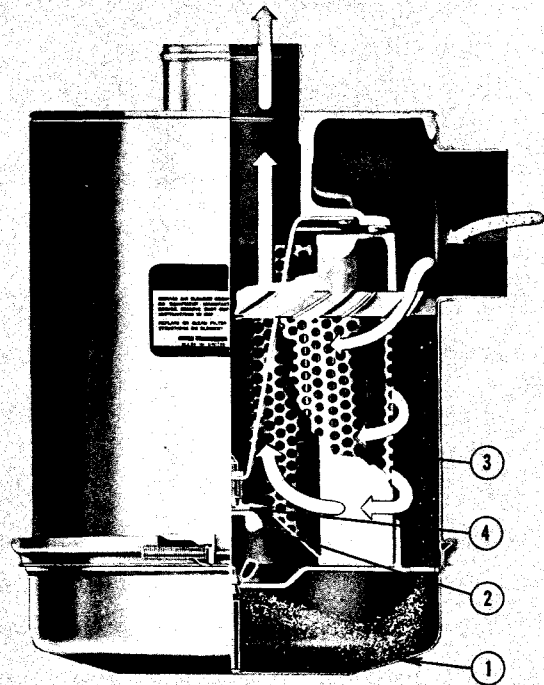
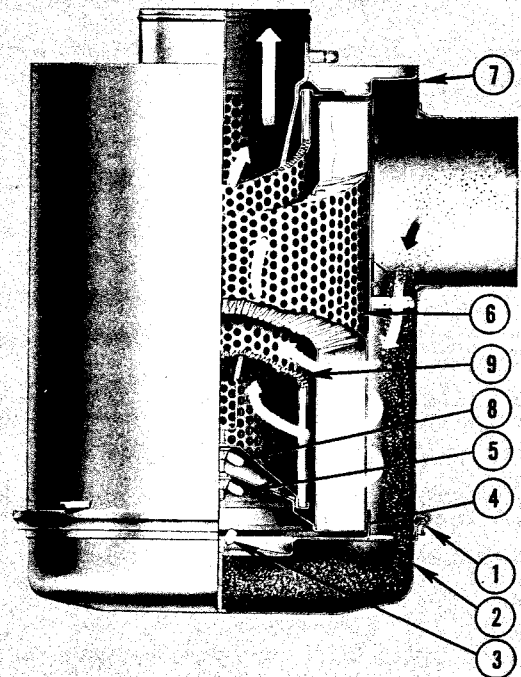

Fig. 2-17, (V11005). Air cleaner - heavy duty
Fig. 2-18, (N11030). Air cleaner - heavy duty dual element
Dirty air enters through an opening in the side of the single or dual type, cyclopac cleaner body. On single element type air immediately travels through a ring of vanes around the outside and through a primary element and on into the engine. Fig. 2-17. Whereas, on a dual element type air travels through a ring of vanes around the outside and through a primary element (6), Fig. 2-18) and then through a safety element (9) and on into the engine.
1. Loosen wing bolt, remove band securing dust pan (1, Fig. 2-17), (2, Fig. 2-18).
2. Loosen wing nut (2, Fig. 2-17 and 3, Fig. 2-18), remove dust shield (3, Fig. 2-17), (4, Fig. 2-18) from dust pan (1, Fig. 2-17), (2, Fig. 2-18), clean dust pan and shield.
3. Remove wing nut (2, Fig. 2-17), (5, Fig. 2-18) securing air cleaner primary element (6, Fig. 2-18) in air cleaner housing, inspect rubber sealing washer on wing nut (4, Fig. 2-17), (5, Fig. 2-18).
8. Be sure gasket washer (4, Fig. 2-17), (5, Fig. 2-18) is in place under wing nut before tightening.
9. Reassemble dust shield (3, Fig. 2-17), (4, Fig. 2-18) and dust pan (1, Fig. 2-17), (2, Fig. 2-18) position to air cleaner housing and secure with band (1, Fig. 2-18).
- a. Check air restriction indicator, if air restriction is excessive, disassemble air cleaner, remove wing nut (8, Fig. 2-18), and replace safety element (9).